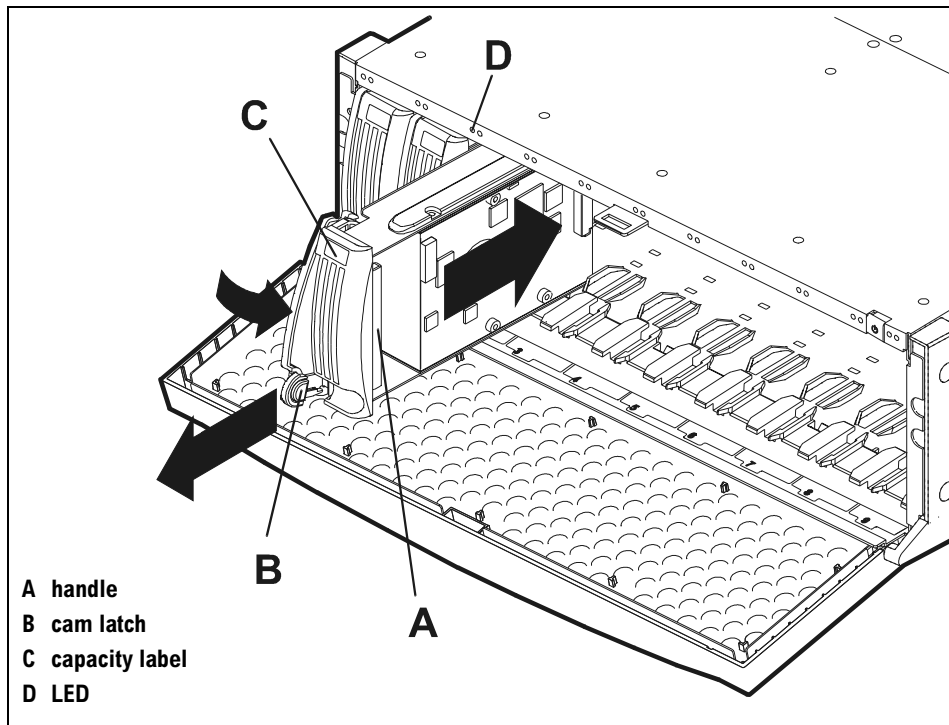

Figure 51 Disk Installation
1. Remove the replacement disk module from its ESD bag, being careful to grasp the module by its handle (A in Figure 51).
2. Pull the cam latch (B in Figure 51) away from the module.